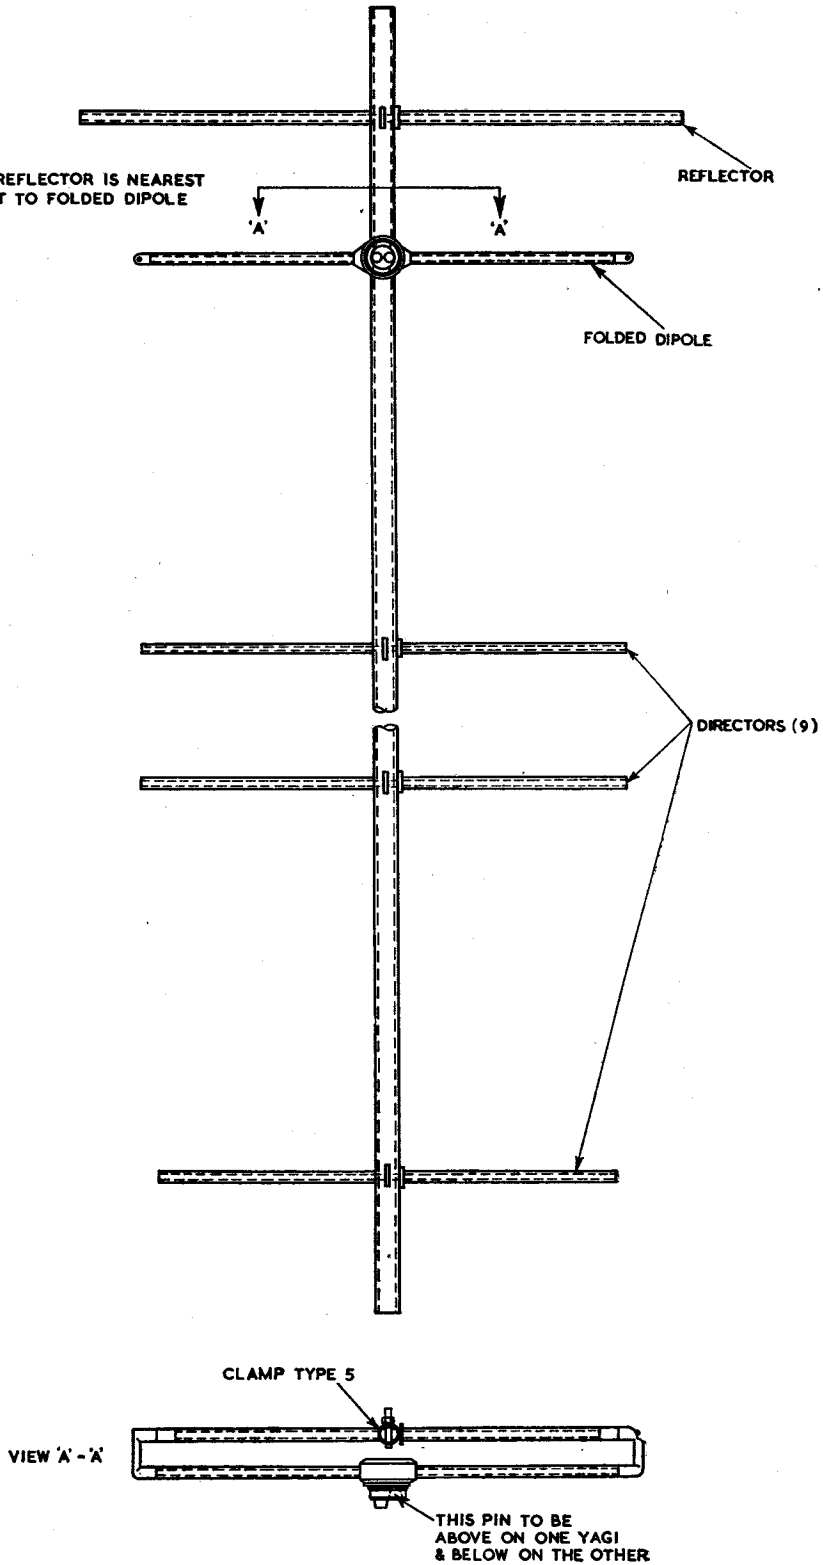

Fig. 35. Aerial array Type 102
39. The assembly of the aerials is best done on the ground. First fit the reflector element, which is the longest rod, taking care to fit it at the correct end of the tube. Fig. 35 shows the construction of one aerial; the nine director elements are spaced at equal intervals from the dipole and from each other, but the reflector is much nearer the dipole than is the first director. The rods are fitted with a ring to ensure that they are clamped symmetrically in the tube. Consequently, put the longest part of the rods through the tube first, push the ring hard against the side of the tube, and then secure the rod by tightening the nut on the clamp.
41. Fit the completed aerial assemblies as shown in fig. 35 with the polythene plugs of the dipole pointing inwards. The lug on the main tubes should mate with the hole in the clamp plate of the front support tie-beam. Tighten the wing nuts on the clamping blocks.